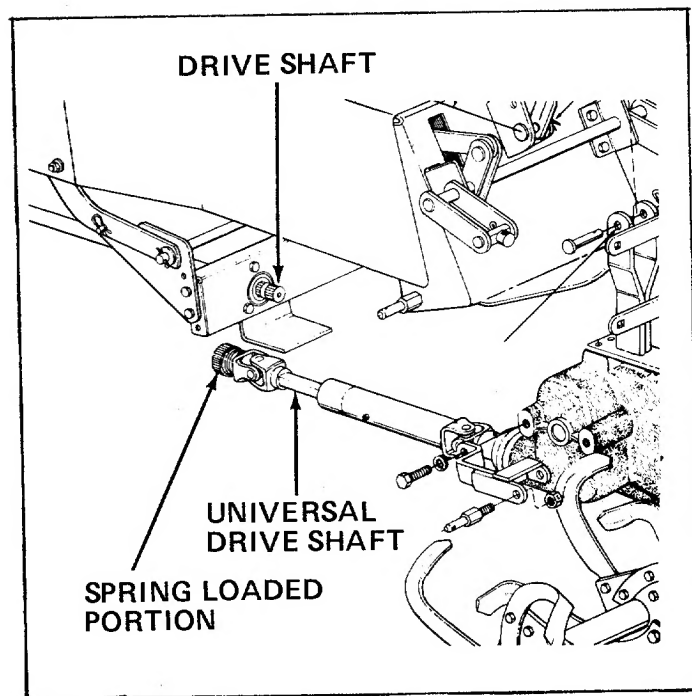

FIGURE 18
9. Slide the tiller forward so the universal drive shaft can be attached to drive shaft. See figure 18.
10. To hook the universal drive shaft to the drive shaft, pull back on spring-loaded portion of universal, slide over end of drive shaft and release to lock. See figure 18.